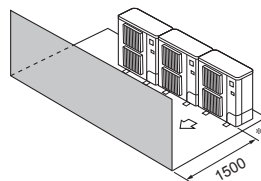

Fig. 2-11
- ③ Obstacles at front only (Fig. 2-11)